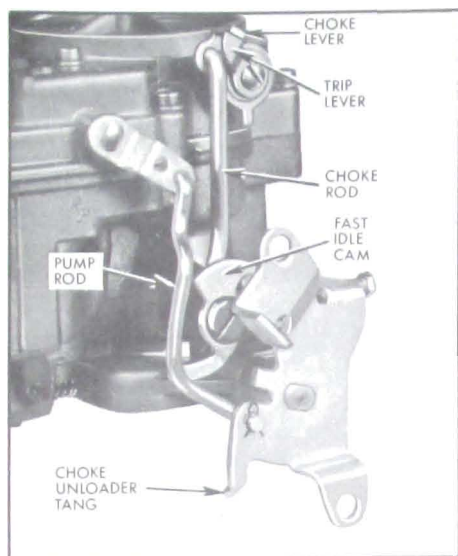

Figure 3-35—Choke Linkage
16. Install choke rod into choke lever and fast idle cam. Install fast idle cam screw and tighten securely. See Figure 3-35 for proper installation.